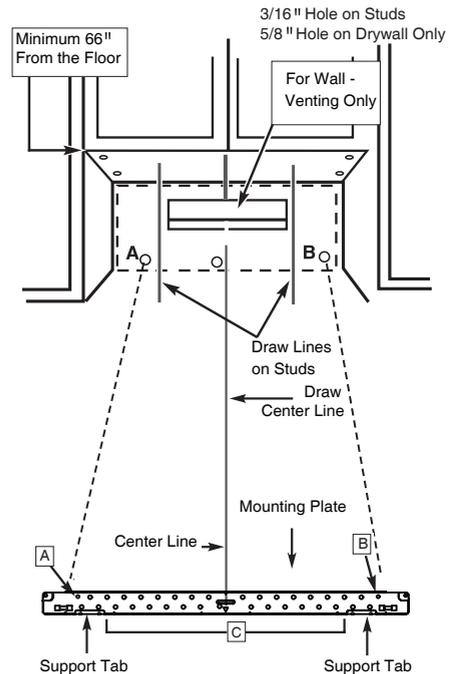
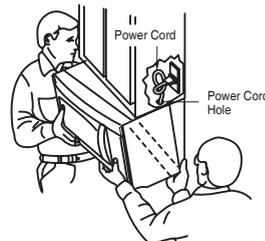

Figure 29
Figure 31
2. Drill holes at points A, B. Drill the third hole inside area C, through one of the bottom holes to match the location of a stud. If there is a stud, drill a 3/16" hole for lag screws. If there is no stud, drill a 5/8" hole for toggle bolts. These holes must be used for mounting. If the holes are not used, the installation will not be secure. Installer must use these holes for proper installation. See Figure 29. Use toggle bolts through these holes, unless one of them lines up with a stud. Use a wood screw for studs. Make sure to use at least 1 lag screw in a stud, and 2 toggle bolts in the drywall or the plaster.
1. Carefully lift microwave oven and hang it on support tabs (See Figure 29) at the bottom of the mounting plate. Reaching through upper cabinet, thread power supply cord through the power supply cord hole in the bottom of the upper cabinet. See Figure 31.